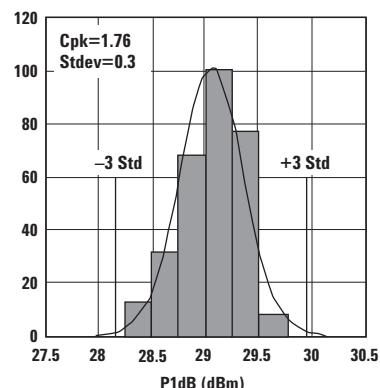

Figure 2. P1dB.
1. Measurements at 2 GHz obtained using production test board described in Figure 2 while measurement at 0.9GHz obtained from load pull tuner.